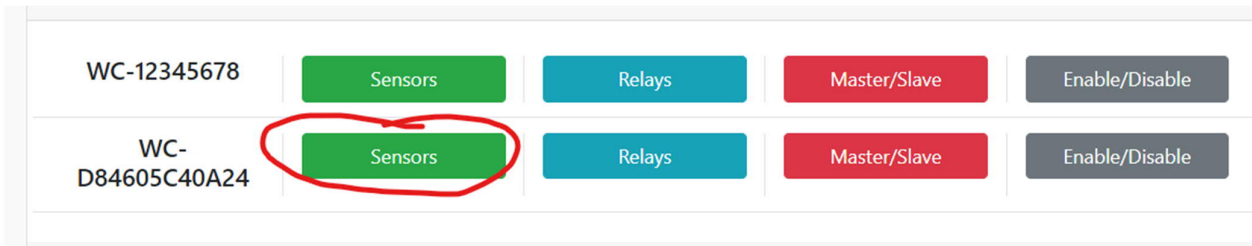

Figure 4.5
- 4.3.6.8. From Figure 4.5 you need to select *Sensors*
- 4.5.7. This page will list the Wiring Centre Controllers (WC Controller) See Figure 4.5